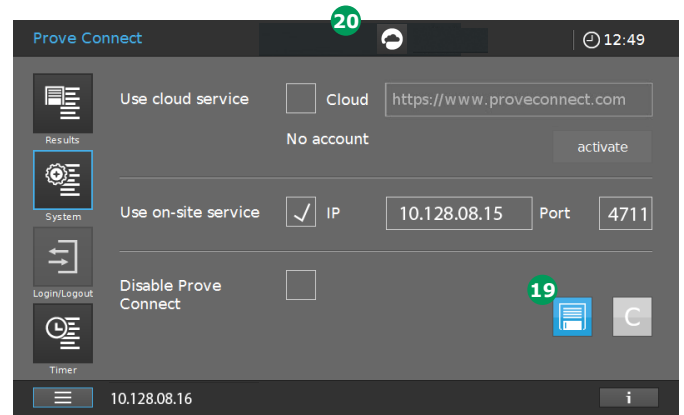

Figure 33 - Screen of Spectroquant® Prove with all network details
14. After setting all properties (Checkmark, IP and Port) press the save icon 19 (Figure 33).
When the network is established the cloud icon 20 appears in the instrument display (Figure 33).